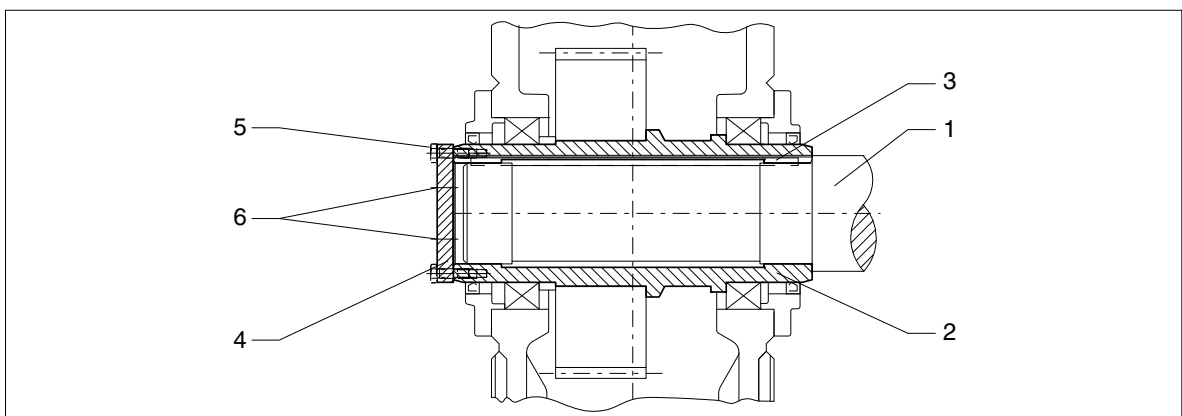

Fig. 49: Hollow shaft with parallel keyway, demounting with end plate
- using forcing screws in an end plate (see figure 49) or